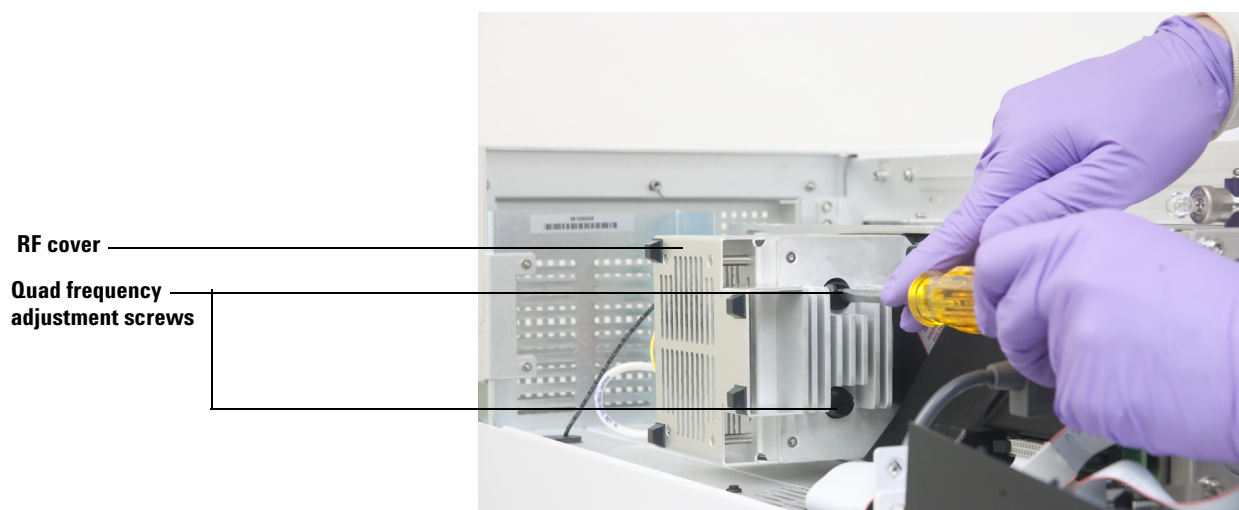

Figure 20 Adjusting the quad frequency
- 6 Slowly turn the quad frequency adjustment screws to minimize the voltage displayed (Figure 20).